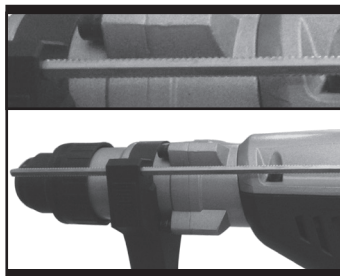

Fig. 7-1
## 8. INSTALLING THE DEPTH GAUGE (See Fig 7-1, 7-2)
**Note:** The depth gauge can not be used at the position where the depth gauge strikes against the tool body. And the depth gauge must be installed correctly (See Fig. 7-1, 7-2).